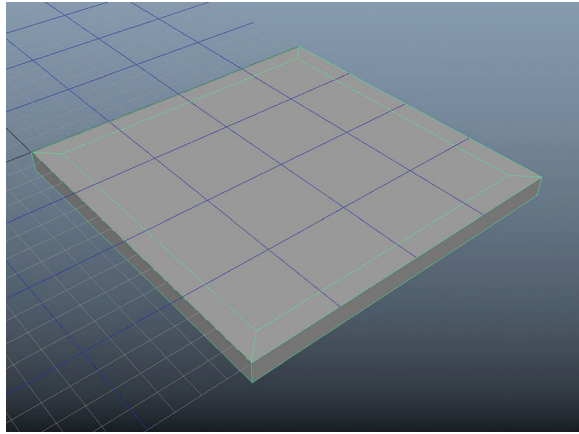

FIGURE 1.49 Creating the base trim of the module using Extrude.
Step 2: Floor edge trim. To help in adding trims to the side of the floor, grab the top face, and press Ctrl+E. Set the Offset setting to 16. This will give us a rim on the outside of the floor (Figure 1.49). Name this model floor_01 and hide it.